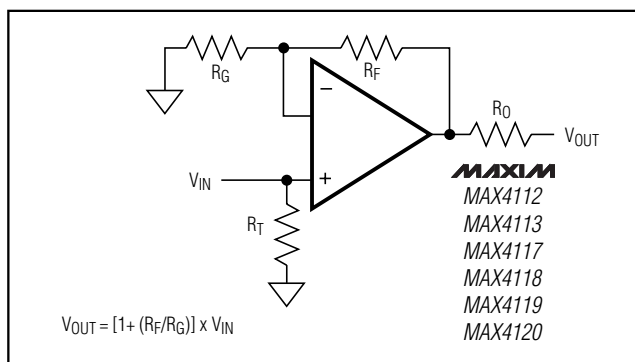

Figure 2b. Noninverting Gain Configuration
The MAX4112/MAX4113/MAX4117–MAX4120 are current feedback amplifiers. Increasing feedback resistor values will decrease peaking. Use the input resistor (RG) to change the standard inverting and noninverting configurations. Notice that the gain of the noninverting circuit (Figure 2b) is 1 plus the magnitude of the inverting closed-loop gain (Table 1).